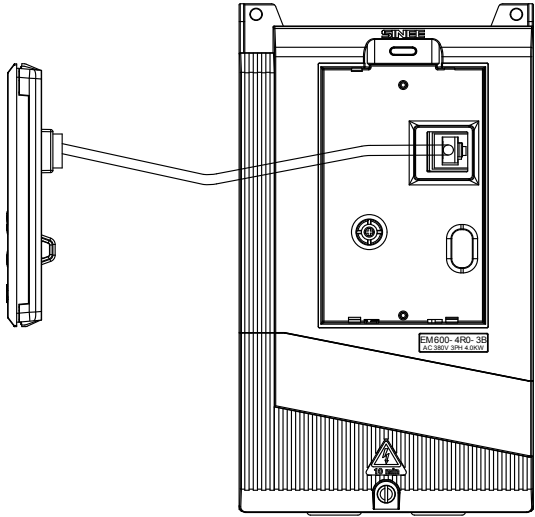

Figure 3-23 Wiring of Keypad Extension Line
- 2) Figure 3-23 Wiring of Keypad Extension Line